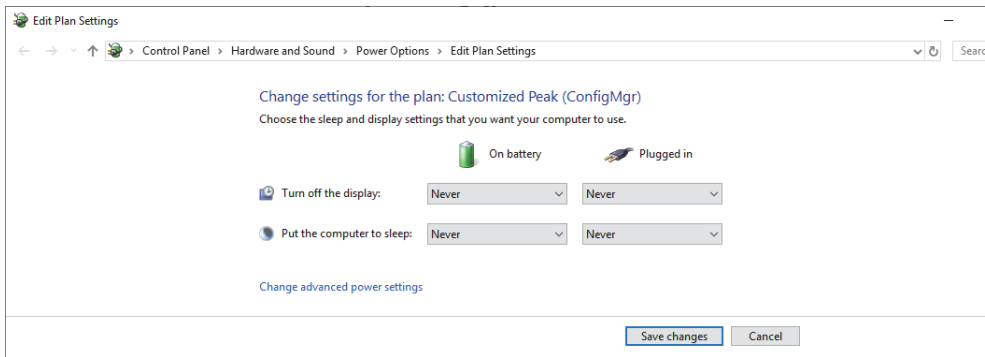

Figure 4-1 Edit Plan Settings dialog box
- b) In the dialog box **Edit Plan Settings**, select **Never** for **Turn off the display** and **Put the computer to sleep** (Figure 4-1 on page 46).